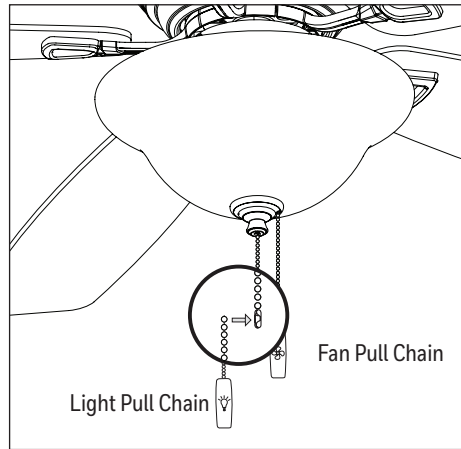

Figure 2.17
17. Attach the pull chain extensions to the pull chains (Figure 2.17).